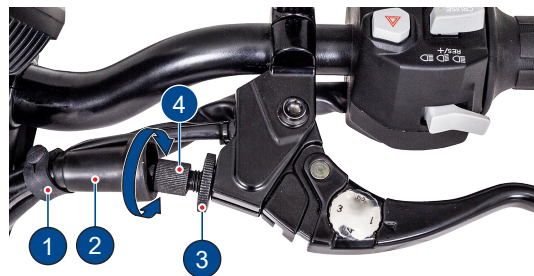

Fig. 60
- Remove the cable clamp (1). Pull back the dust cover (2) of clutch lever (**ref. Fig. 60**).
- Loosen the lock nut (3) and turn the adjuster (4) 'in' or 'out' till the specified play is obtained (**ref. Fig. 60**).